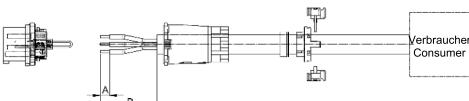
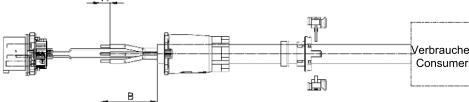
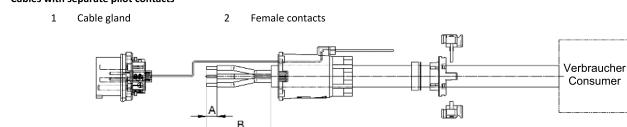

Fig.6: Schematic for cables without pilot contacts
Fig.7: Schematic for cables with integrated pilot contacts
Fig.8: Schematic for cables with separate pilot contacts
- Proceed as specified in Fig.6 if no pilot contacts are present. Control pilot loop (Fig.6/2).
- Proceed as specified in Fig.7 if pilot contacts have been integrated.
- Proceed as specified in Fig.8 if the pilot contacts are separate.
1. Pull the cable gland (Fig.6/1, Fig.7/1, Fig.8/1) over the cable. Strip off the exterior insulation along length B (Fig.6, Fig.7, Fig.8).
2. Strip the insulation off each individual line along length A (Fig.6, Fig.7, Fig.8).
- Length C (Fig.7) represents the length of the integrated pilot contact
5. Screw the female contact (Fig.6/2, Fig.7/2, Fig.8/2) to the cable.